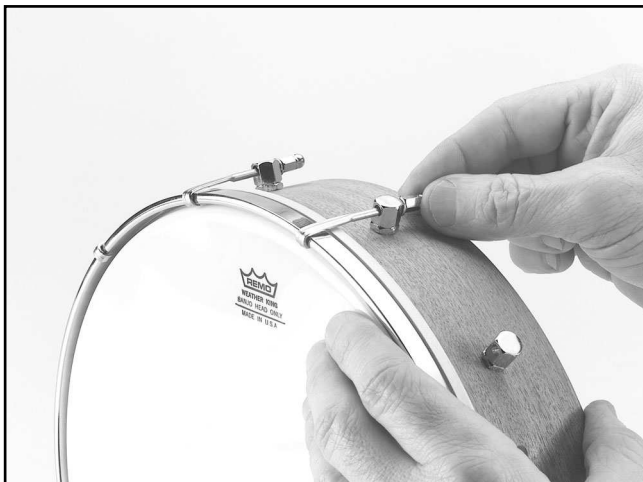

Figure 7. Finger tightening the bracket hook nuts.
4. Thread the bracket hook nuts and 4mm lock washers onto the bracket hooks and finger tighten as shown in **Figure 7**. Note—*The bracket hook nuts install with the flat side toward the bracket hook lugs.*